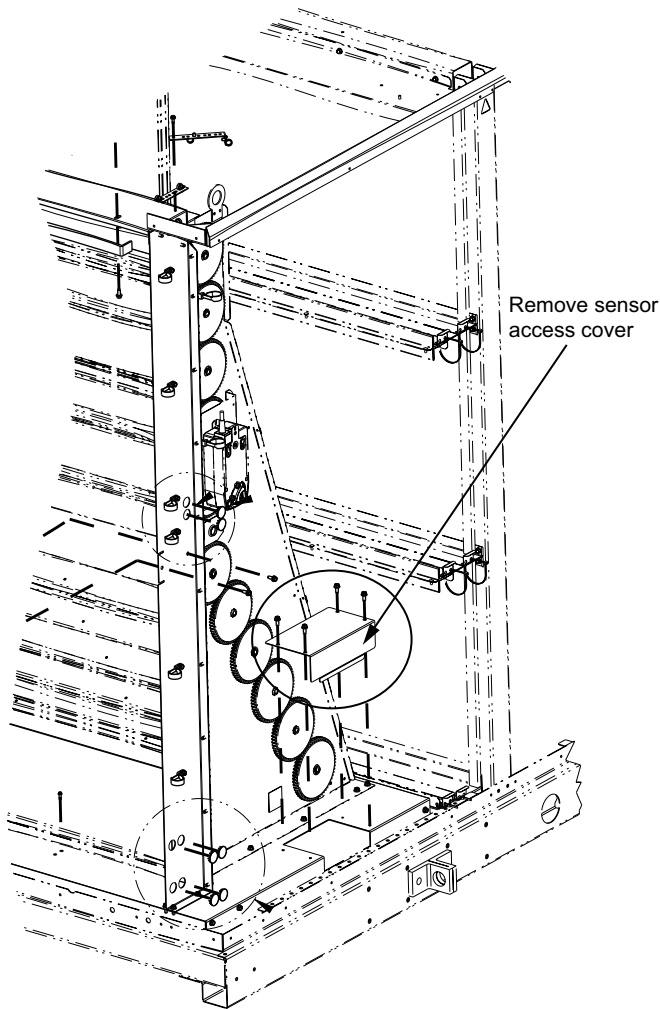

Fig. 11 — Remove Access Cover to Install Smoke Detector
3. Locate and remove the sensor access cover on the economizer assembly to install the smoke detector sensor mounting brackets, as shown in Fig. 11.